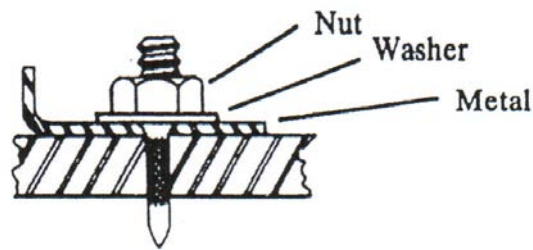

Fig. 24
F. Fastening removable items or material to steel (Fig. 24).